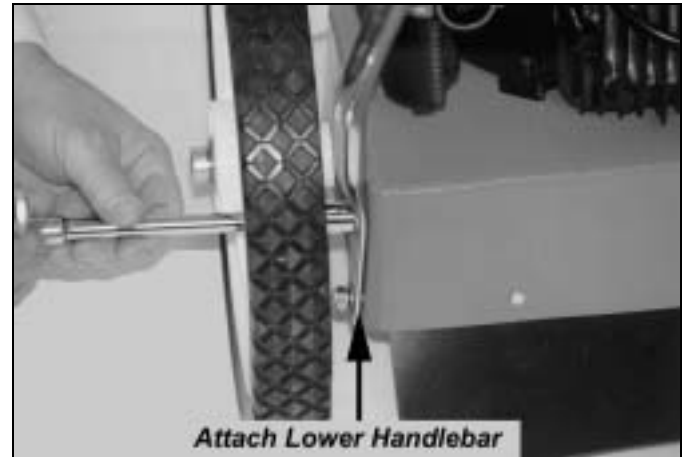

Figure 8
1. With the control cables on the inside of the handlebars, position the lower handlebar over the bolt holes in the trimmer frame (*Figure 8*).
2. Mount one of the U-bolts through the hole in the frame and handlebar from the inside facing out (*Figure 8*). Repeat on the other side.